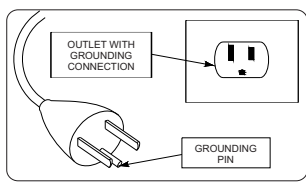

FIGURE 6 - FOR MODELS MSV3, MSV 6 AND CSA 6,5
- The item 16 is supplied for the models MS 3/30, CSA 6,5/30, MSV 6/30 and MSV 6/50 with plug 2P + GR (ground) see Figure 6. For the models MSV 12/175 and MSV 18/250 without the plug, its must be connected to electrical source (electrical starter and fusible) or according with the electrical laws for each country where the compressor will be installed. For the models CSV 15/220, CSV 15/250, CSV 20/220 and CSV 20/250 is responsibility of the user the installation of the compressor to electrical source, including the electrical starter.